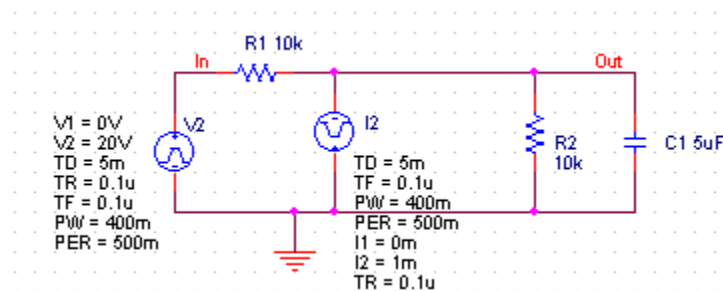

Figure 14. Circuit with a PULSE voltage and current source.
6. Instead of using a switch we can also use a voltage source that changes over time. This was done in Figure 14 where we used the VPULSE and IPULSE sources from the SOURCE Library. We entered the voltage levels (V1 and V2), the delay (TD), Rise and Fall Times, Pulse Width (PW) and the Period (PER). The values are indicated in the figure below. For details on these parameters click here. A description of other Spice elements can be found in the User's guide or in the Spice Tutorial. (<http://www.seas.upenn.edu/~jan/spice/>)